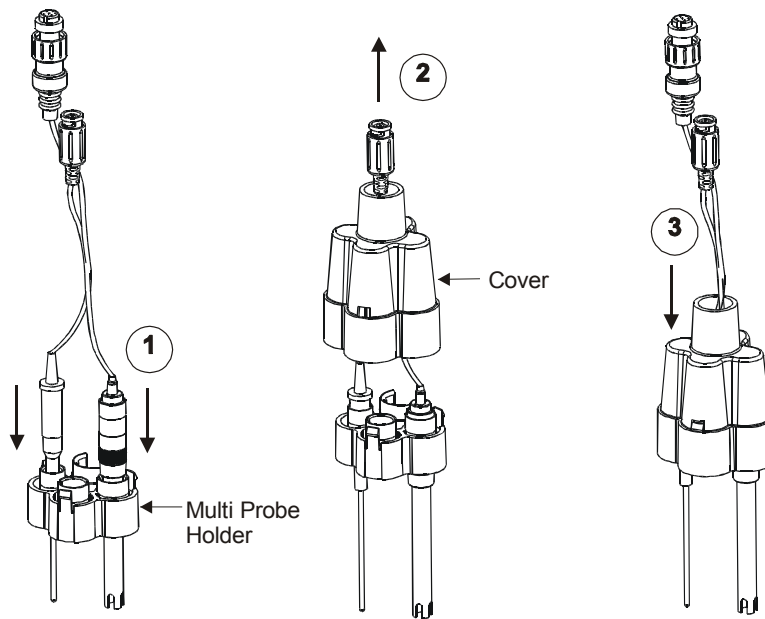

Figure 8 : Using multi probe holder
1. Insert the two probes into the multi probe holder as shown in Figure 8.